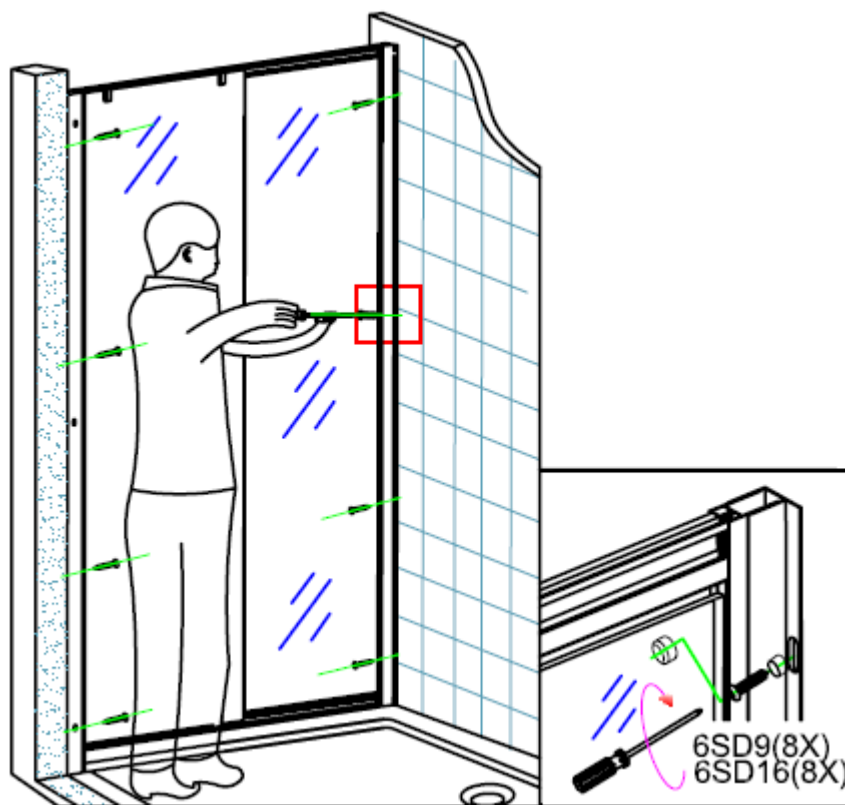

Figure 11
11. Adjust the wall profile and the fixed profile, then fasten the wall profile(6SD1) to the wall by using screw(6SD9) with caps, as showed in figure 11.